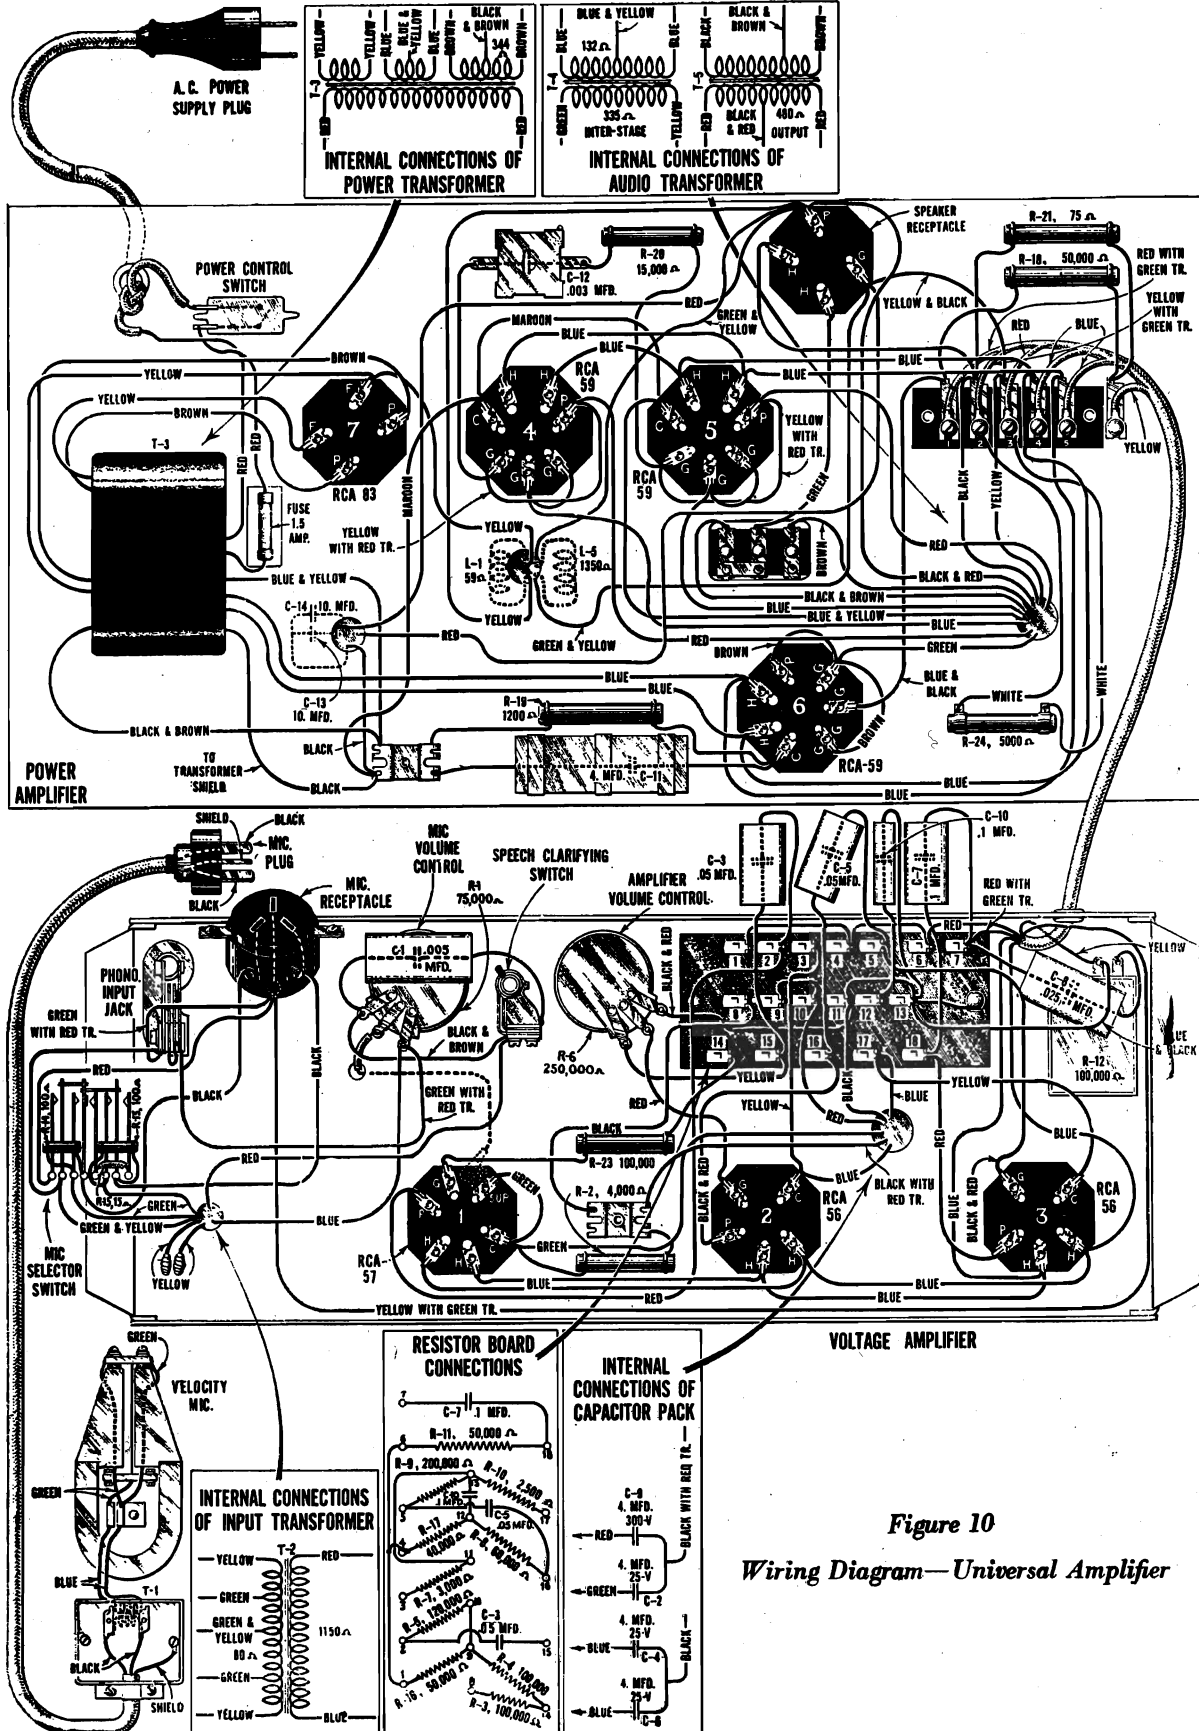

Figure 10
3. Connect the voltage and power amplifiers together by means of the interconnecting cable as shown in Figure 10.
NOTE: If a loudspeaker having a voice coil of $7\frac{1}{2}$ ohms impedance is used, the link between the output transformer and the loudspeaker receptacle should remain connected between terminals 1 and 2, as indicated in Figure 10. If the voice coil impedance is 15 ohms, shift the link so that it connects terminals 2 and 3 on the link terminal board.